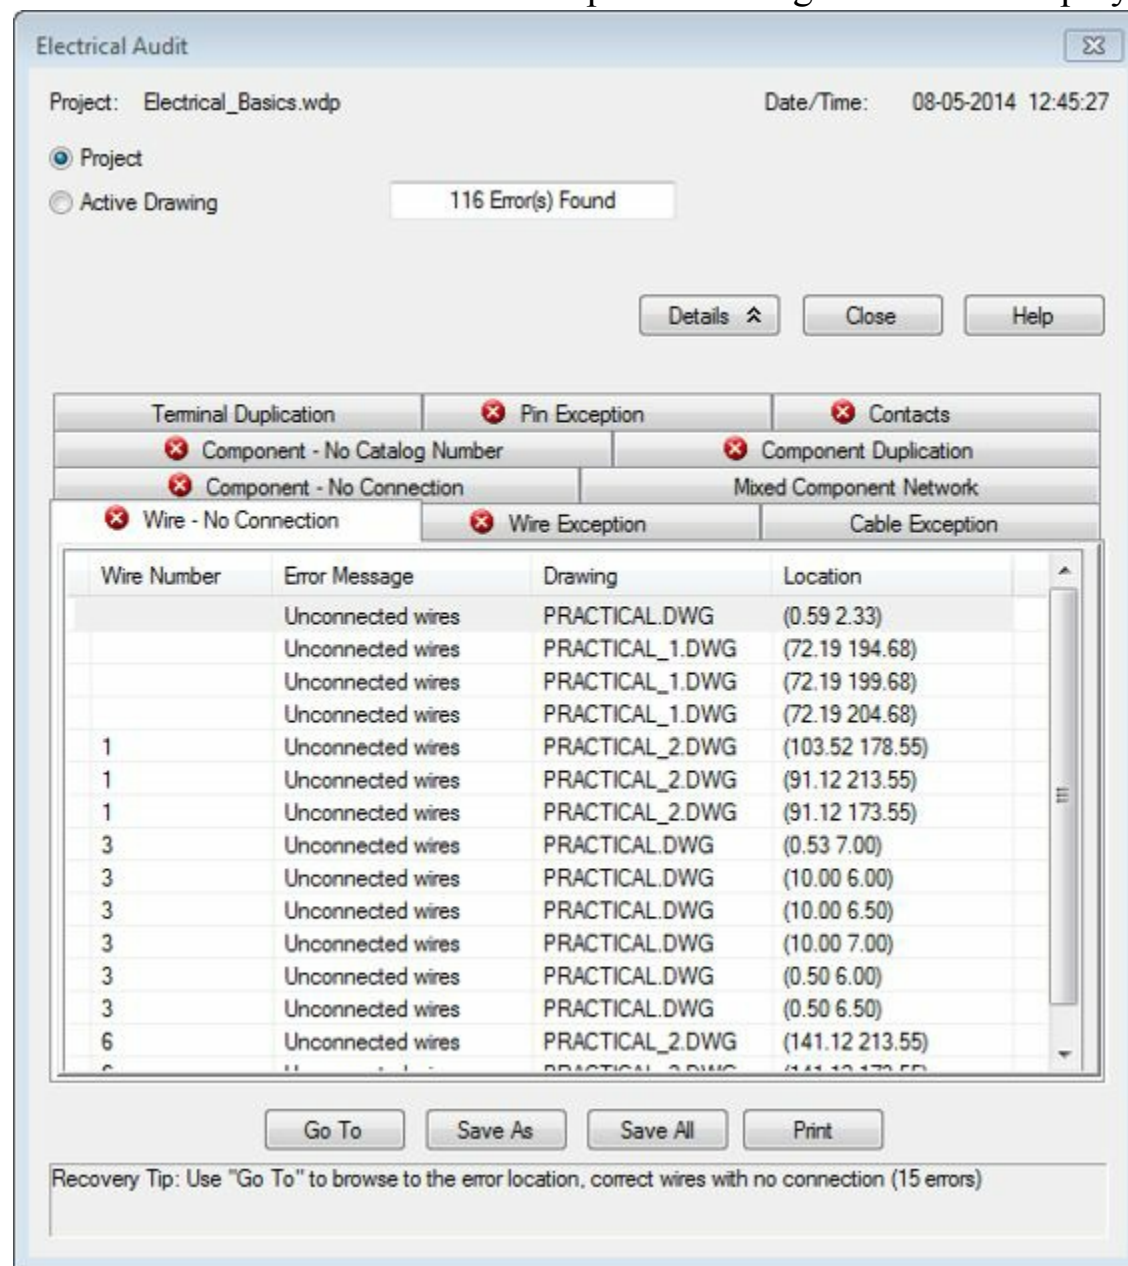

Figure-16. Electrical Audit dialog box
- Click on the **Details** button. The expanded dialog box will be displayed; refer to Figure-16.